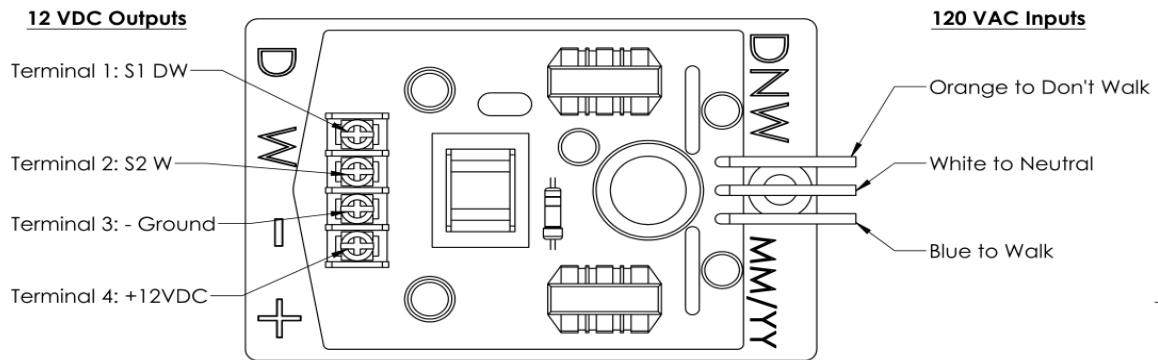

Figure 3. SPI Wiring
4. Attach the four wires from the Base Station to the four position terminal block on the SPI following the connections shown in Figure 3.